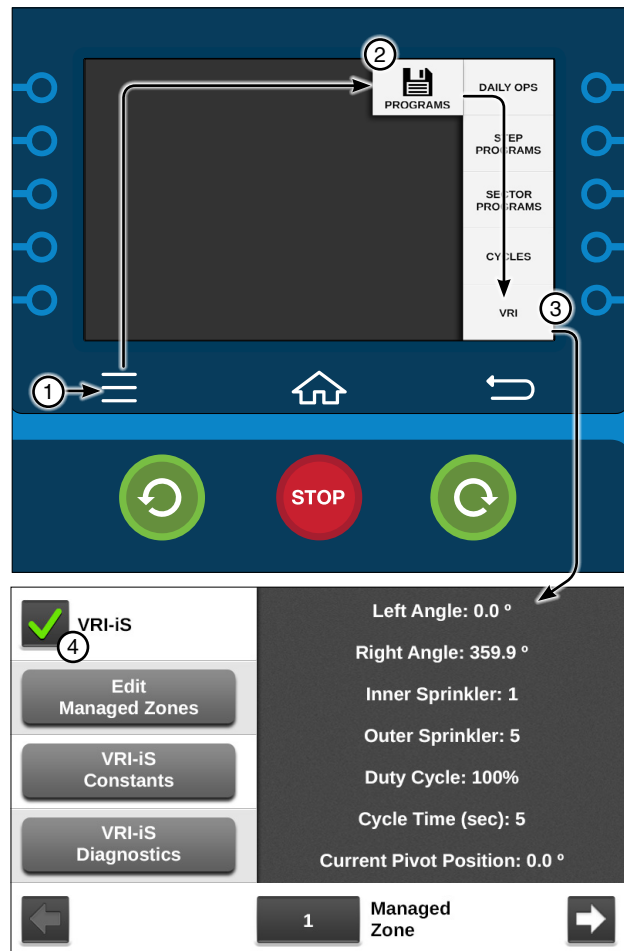

Figure 172-1 1. Menu
- Push **Menu**, **Programs**, and **VRI** to access the VRI-iS screen. Refer to Figure 172-1.
1. Push **Menu**, **Programs**, and **VRI** for the VRI-iS screen. Refer to Figure 172-1.